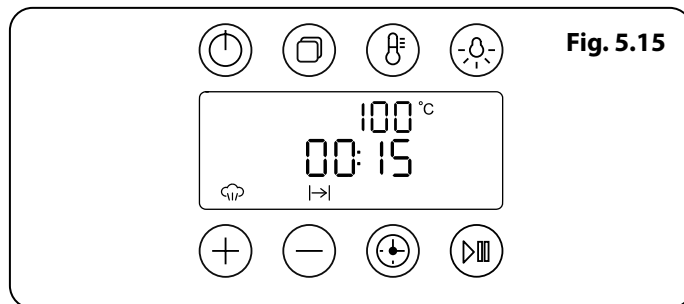
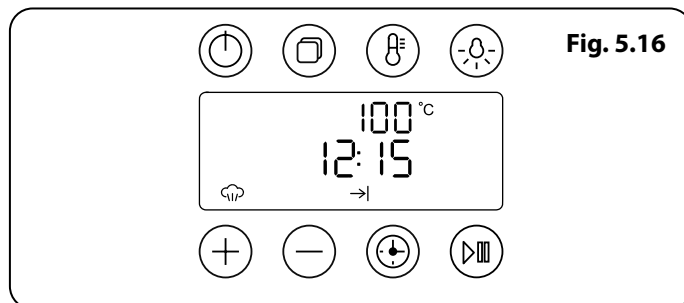

Fig. 5.15
Fig. 5.16
4. Tap the Start / Pause button. The display will show the 'cook period' (**Fig. 5.15**) and the 'stop time' (**Fig. 5.16**).